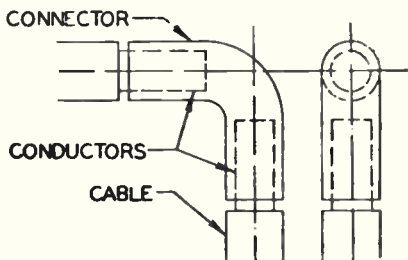

Fig. 6-12
- CC-L Elbow type two-way cable connector. Fig. 6-12